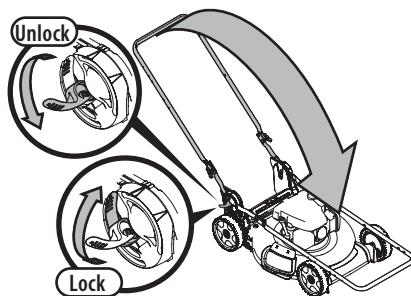

Figure 37
3. Unlock the two handle release levers. See inset Figure 37.
4. Fold the handle forward to the storage position (Figure 37). Do not crimp blade control cable or the drive control cable (if equipped) while lowering the handle.
5. Lock the two handle release levers (inset, Figure 37).
9. To unfold the handle, unlock the two handle release levers (inset, Figure 37) and perform STEPS 5-8 in ASSEMBLY, Vertical Storage Handle on page 9.